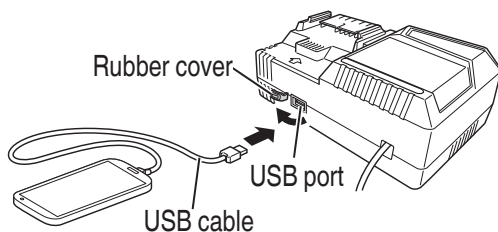

Fig. 9
- (2) Connect the USB cable. (**Fig. 9**)